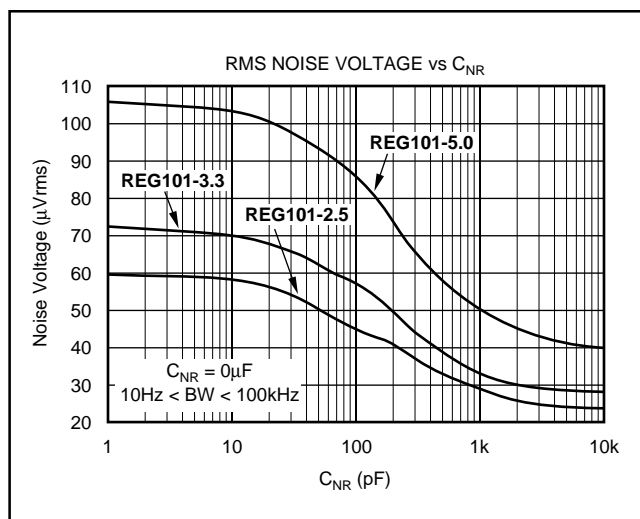
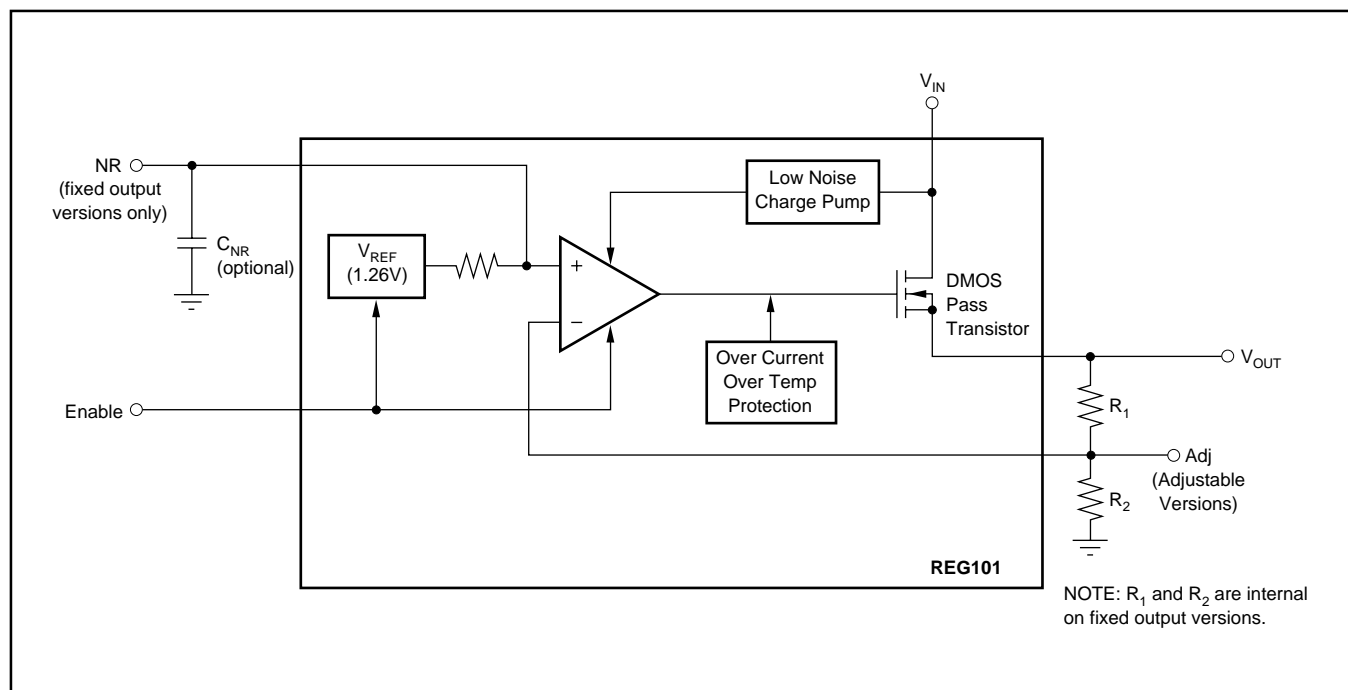

FIGURE 5. Output Noise vs Noise Reduction Capacitor.
FIGURE 4. Block Diagram.
Connecting a capacitor, C_{NR} , from the Noise Reduction (NR) pin to ground, as shown in Figure 4, forms a low-pass filter for the voltage reference. For $C_{NR} = 10nF$, the total noise in the 10Hz to 100kHz bandwidth is reduced by approximately a factor of 2.8 for $V_O = 3.3V$. This noise reduction effect is shown in Figure 5 and as “RMS Noise Voltage vs C_{NR} ” in the Typical Performance Curves section.